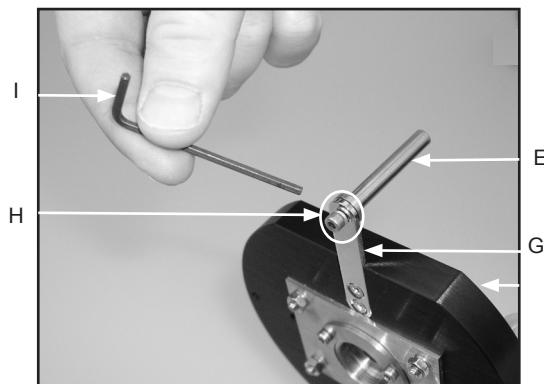

Fig. 3.3
5. Fig. 3.3: On the Cheek Plate, F: Mount the pin, E, onto the flat-arm, G, using one of the supplied sets of screw and washer, H, and the allen key, I: